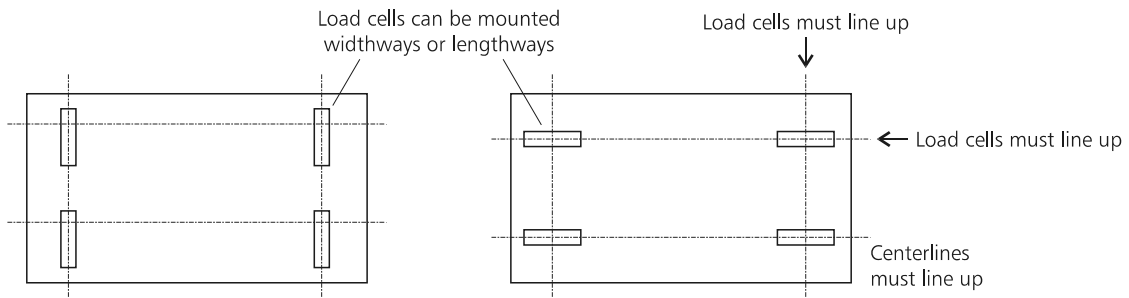

Figure 7 Four load cells installed under the chute/crush.
- Install load cells either widthways across the chute/crush or lengthways parallel to the chute/crush (see Figure 7).